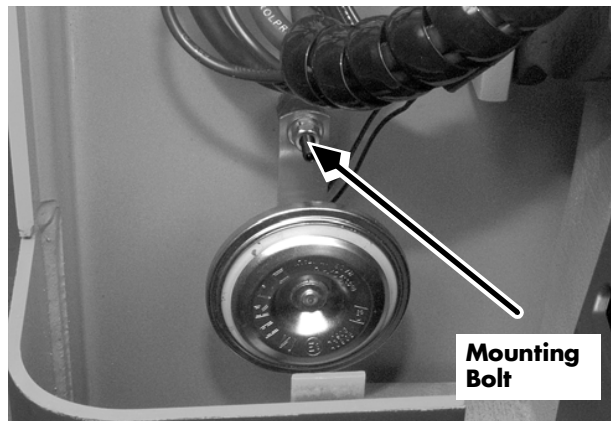

Figure 6-21: Removing Horn
4. Remove the horn mounting bolt. See Figure 6-21.
1. Attach the horn to the tractor frame and tighten the mounting bolt. See Figure 6-21.